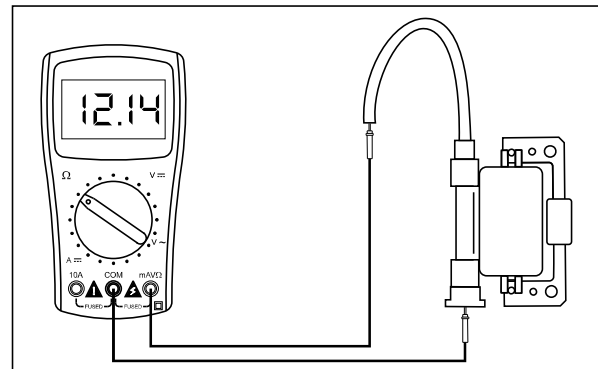

Fig. 5.13
- Remove the suppressor cap from the HT card. Connect the pocket tester's '+ve' lead to the HT cord and '-ve' lead to any terminal of the ignition coil coupler and measure the resistance. (Fig. 5.13)